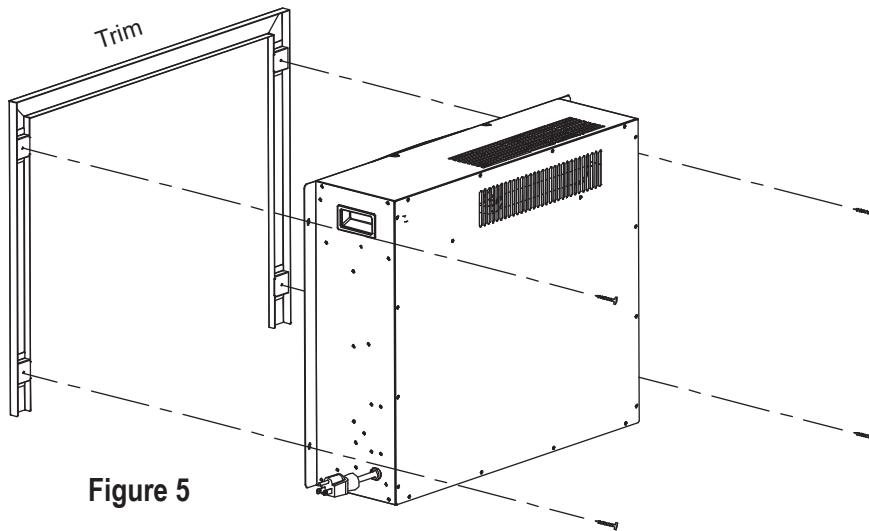

Figure 5
1. Unscrew the 4 screws on the unit to remove the trim, as shown. [Figure 5]